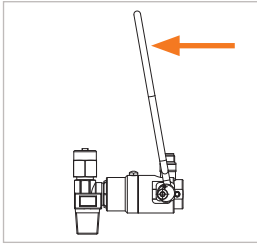
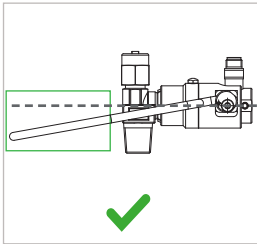

Figure 4
Figure 5
- ▶ Fold the actuation unit (Pos. 1) downwards (*Figure 4*). It must be possible to lower the actuation bail easily and without any force. In its end position, the actuation unit must be below the horizontal of the connector (*Figure 5*).